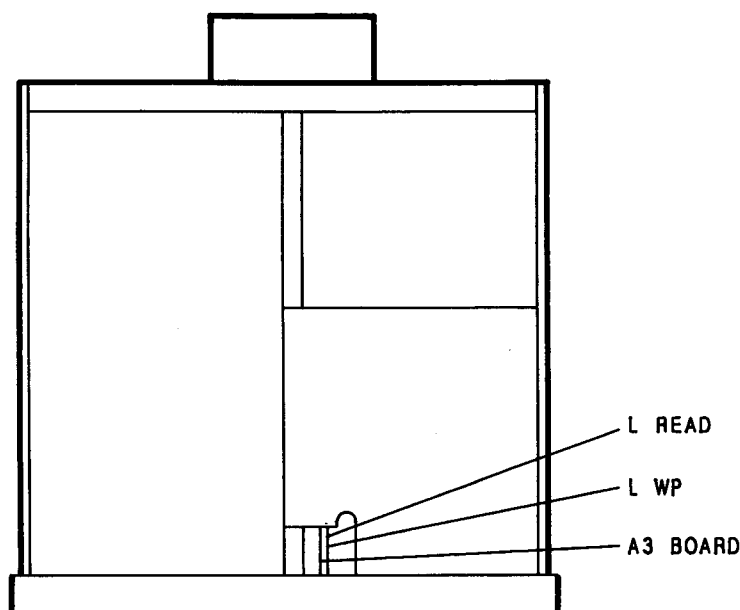

Figure 3-3. Location of HP 8757A Test Points L WP and L READ
8. Refer to Figure 3-3 and **carefully** use a jumper to connect test point L WP (A3TP1) to L READ (A3TP2) of the HP 8757A when prompted. To minimize the possibility of data loss, first connect the jumper to L WP and then L READ. Use caution, do not short either test point to ground. Shorting either test point to ground may necessitate cycling the HP 8757A power switch to return to an operational state.